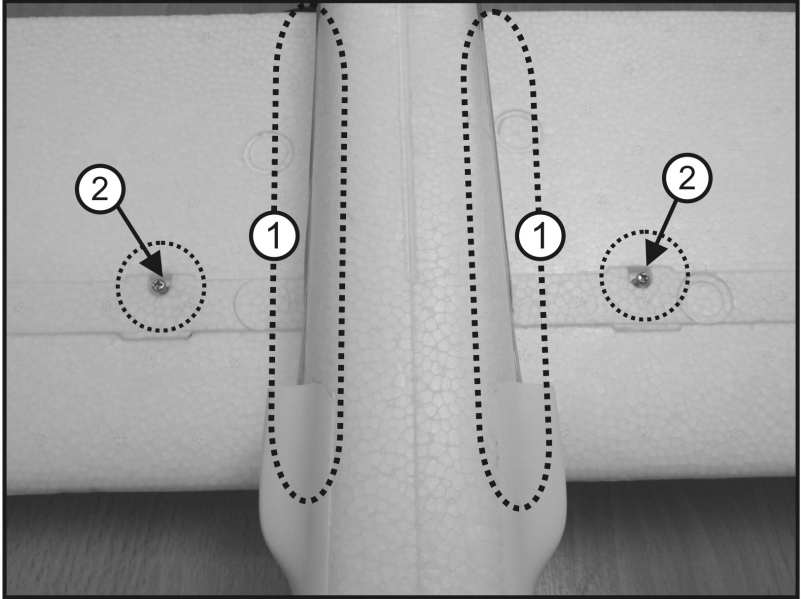

Figure 5
For this, push the enclosed wing connector (2) into one wing (1). The wing connector is later secured with one screw each with the wing pushed on. To install the wing connector, these screws may need to be turned out a little at initial assembly (see figure 5).